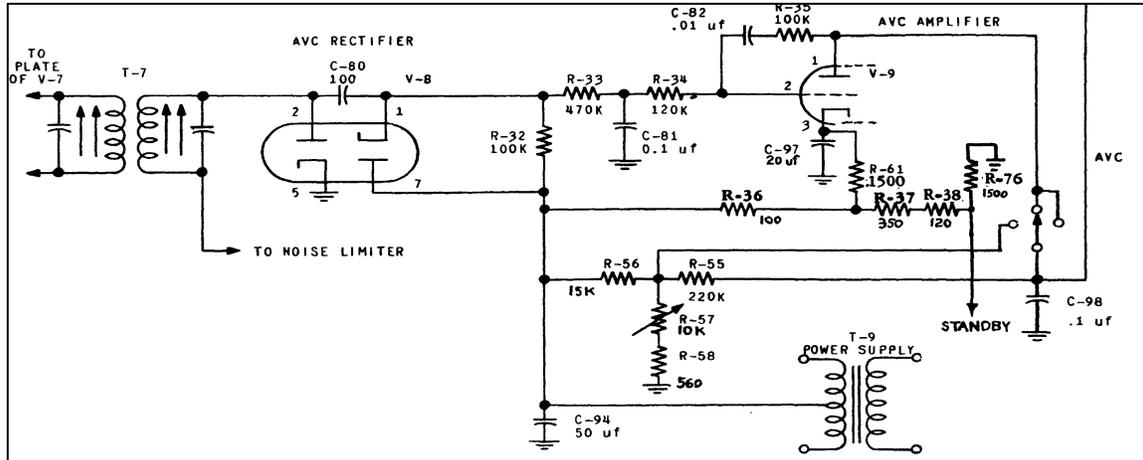

Figure 3. AVC and RF Gain Circuit
Now that I had AM signals going through the radio there appeared to be some overloading and distortion. This pointed me back to item 15. on my documented list, namely AVC issues. Of all of the circuits I hate to troubleshoot, AVC is one of them. Thankfully, the 75A-3 AVC is a simple and fairly straightforward AVC system. See figure 3.